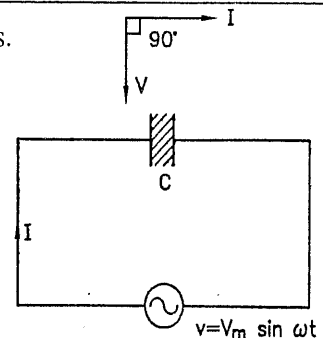

FIG. 2.37 : PURELY CAPACITIVE CIRCUIT
- Fig. 2.37 shows an a.c. circuit containing a capacitor of capacitance C farads.